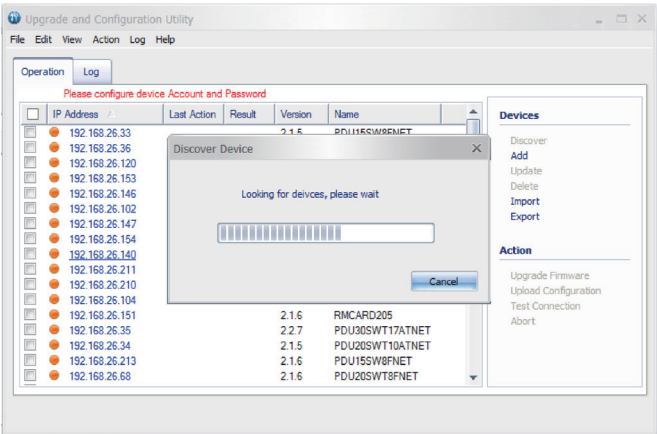

Figure 1
- 3. Wait for search to finish (Shown in Figure 1).